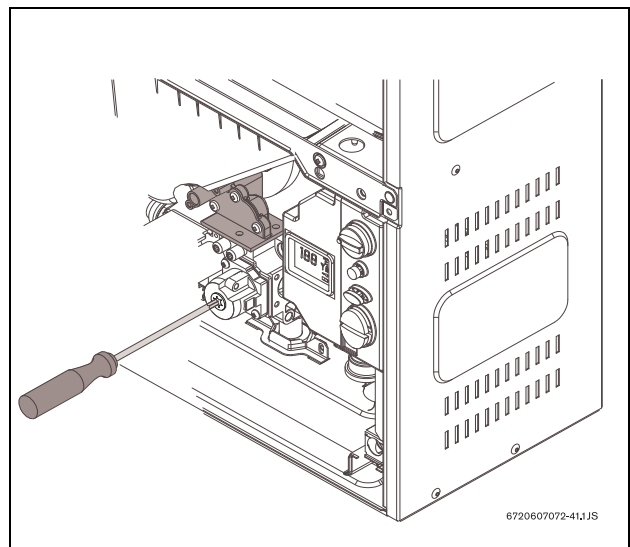

Fig. 3
- ▶ 7. Remove yellow painted # 40 Torx cover from the front of the gas valve revealing a plastic #40 Torx screw (Fig. 3).
- ▶ 3. Turn #40 plastic torx screw 1 tooth clockwise (Fig. 3).
- ▶ 3. Turn #40 plastic torx screw 1 tooth counter clockwise (Fig. 3).
- ▶ 1. Reinstall yellow painted #40 Torx cover on the front of gas valve (Fig. 3).